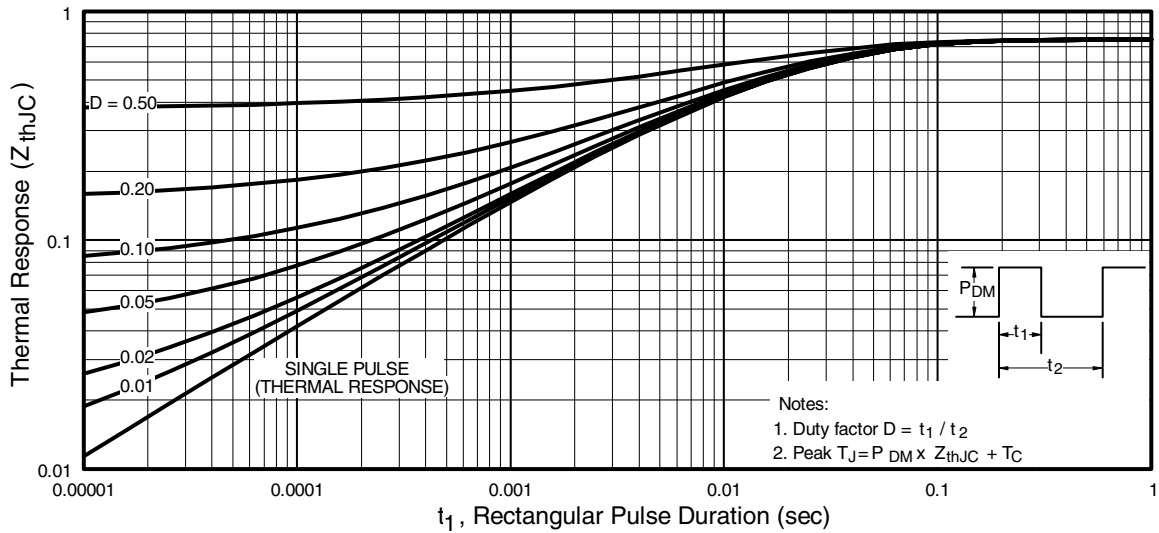

Fig 11. Maximum Effective Transient Thermal Impedance, Junction-to-Case
- ① Repetitive rating; pulse width limited by max. junction temperature. (See fig. 11)
② V_{DD} = 15V, starting T_J = 25°C, L = 180μH